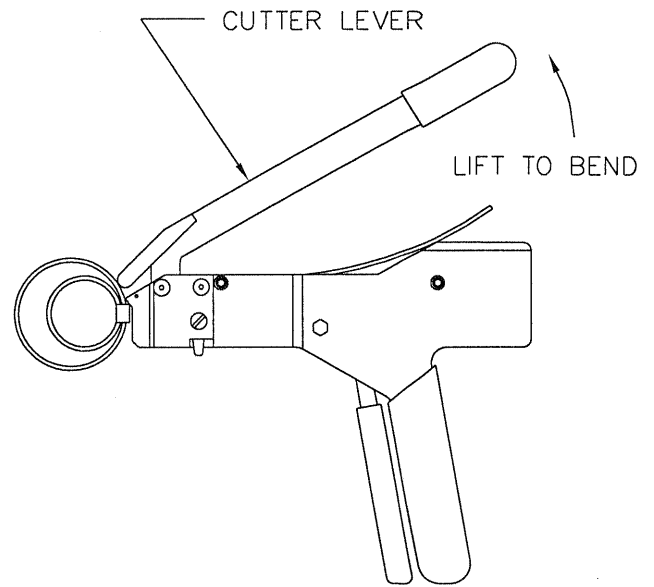
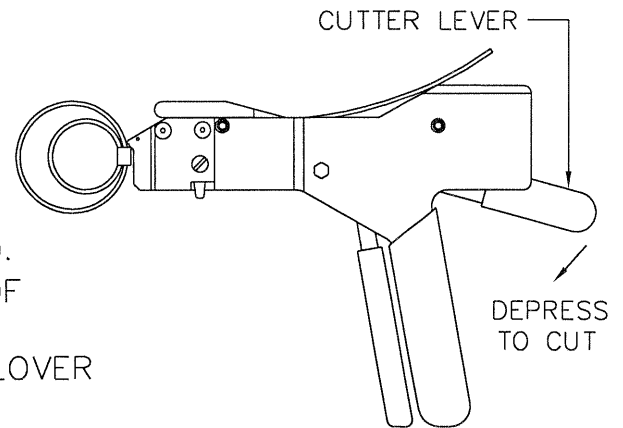

FIGURE 3
FIGURE 4
1.5 To complete the termination, the band must be bent 90° by lifting the cutter lever upwards (Figure 3), and then cut by depressing the cutter lever downwards (Figure 4). WHEN THE CUTTING OPERATION HAS STARTED IT MUST BE COMPLETED PRIOR TO ANY FURTHER MOVEMENT OF THE BAND IN THE TOOL.